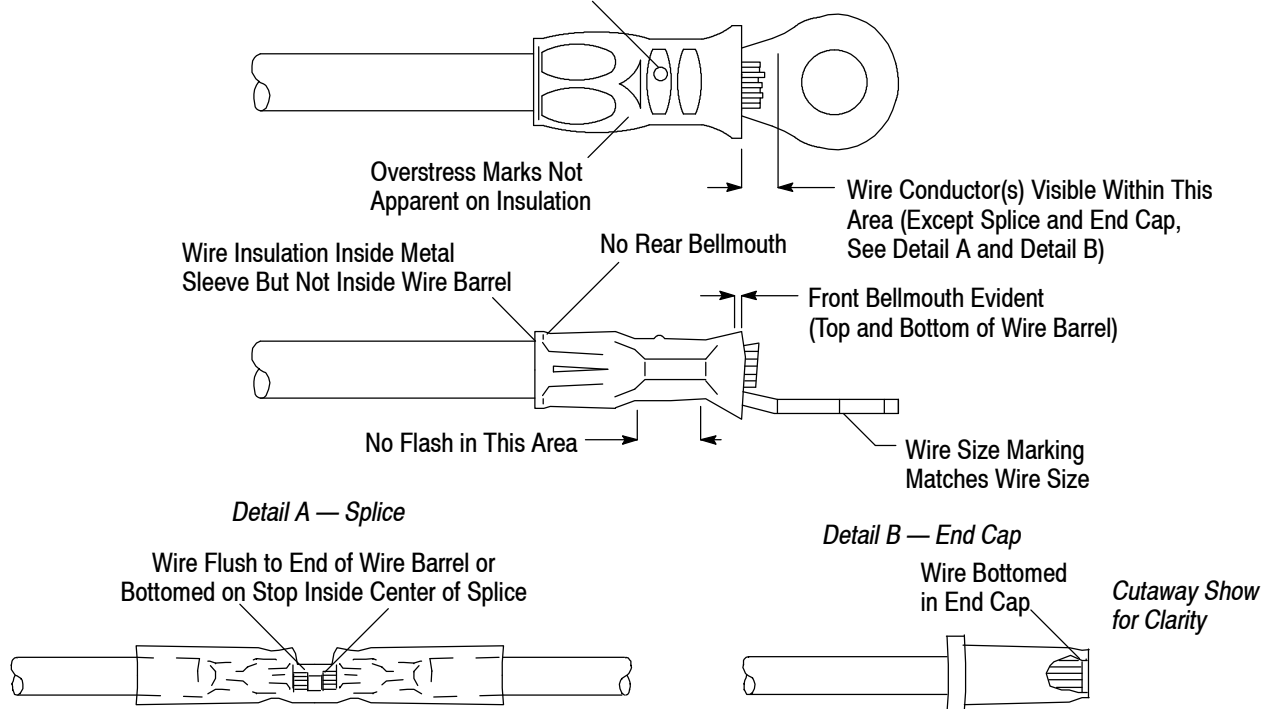

Figure 5
There shall be no rear bellmouth. The front bellmouth shall be evident on the top and bottom of the wire barrel as shown in Figure 5. Also see Figure 11.
There shall be no flash or extruded insulation material visible in the most compressed area of the wire crimp. See Figure 5.
The insulation of the terminal, splice, or end cap must not be cut or show uneven stress marks or highlighted marks on the insulation. See Figure 5.
1. Terminals shall have the wire ends flush or extended slightly beyond the end of the wire barrel as shown in Figure 5.
The insulation crimp must capture the wire insulation. The wire insulation must not be crimped inside the wire barrel of the terminal, splice, or end cap. The wire insulation must be inside the metal sleeve to provide strain relief for the wire. See Figure 5.